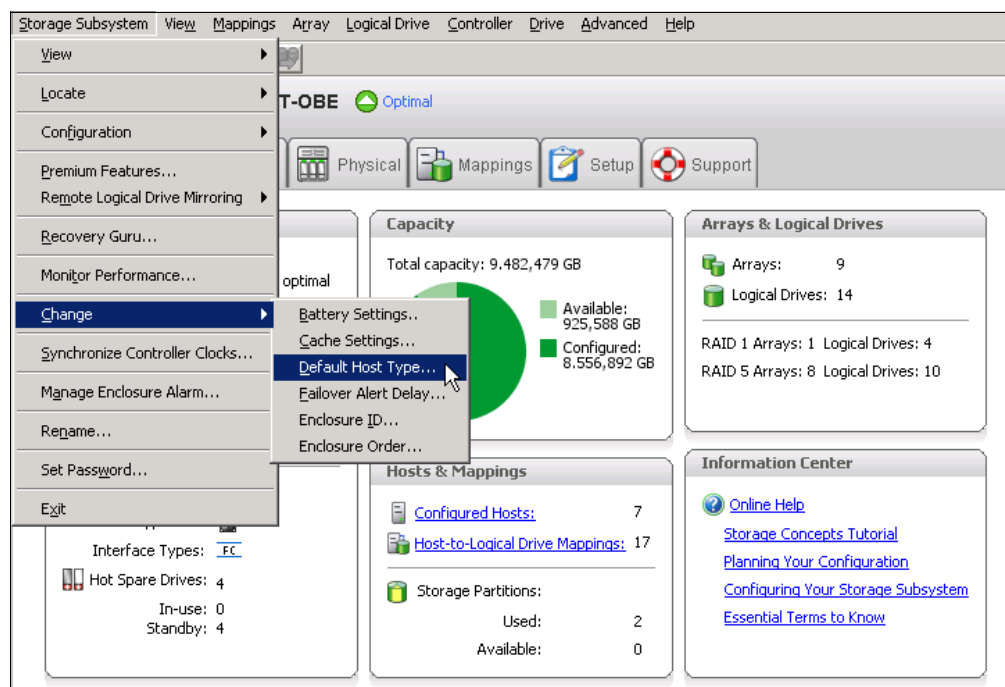

Figure B-4 Changing the default host type
- If the host type is set by using the default host type, click **Storage Subsystem** → **Change** → **Default Host Type**, and select **LNXCLVMWARE** in the Change Default Host Type window (Figure B-4). The LNXCLVMWARE host type now has AVT disabled.